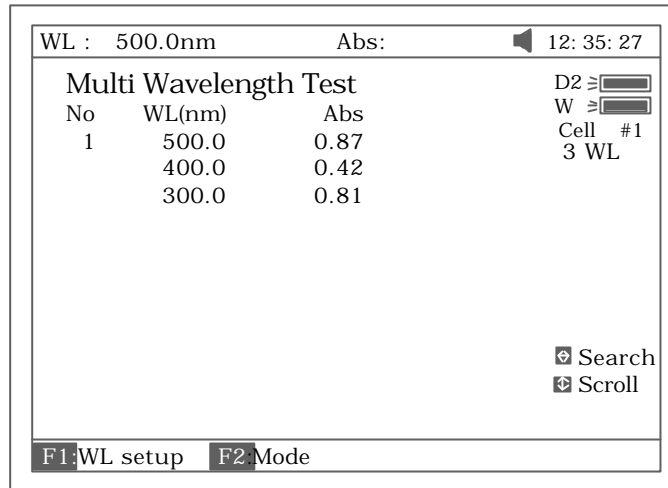

Fig 71
4. Pull the sample cuvette into the light path, press **【START】** to test. The test results will be displayed on the screen (Fig 71).